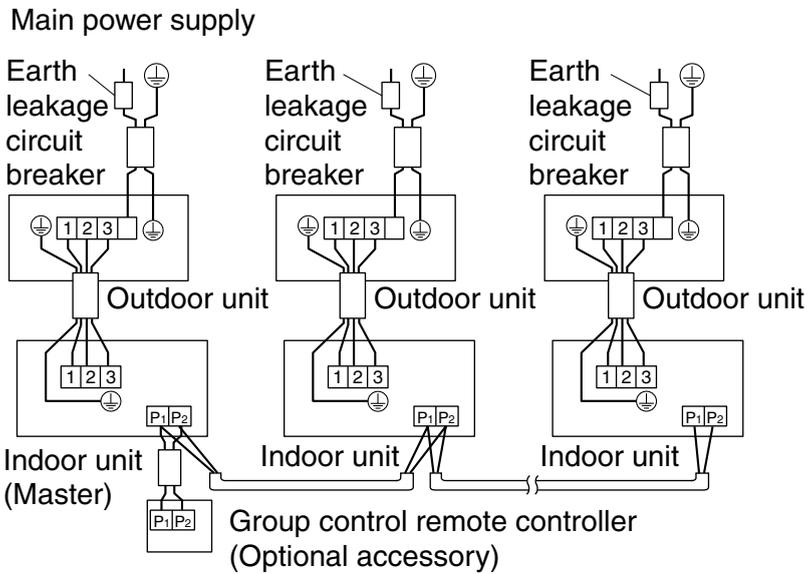

Fig. 35
- **Group control:** 1 remote controller controls up to 16 indoor units (All indoor units operate according to the remote controller). (Refer to Fig. 35)
- (1) Remove the control box lid. (Refer to “9. HOW TO CONNECT WIRINGS AND WIRING EXAMPLE”.)
- (2) Lay crossover between the terminals (P1, P2) inside the control box for the remote controller. (There is no polarity.) (Refer to Fig. 35 and Table 3)